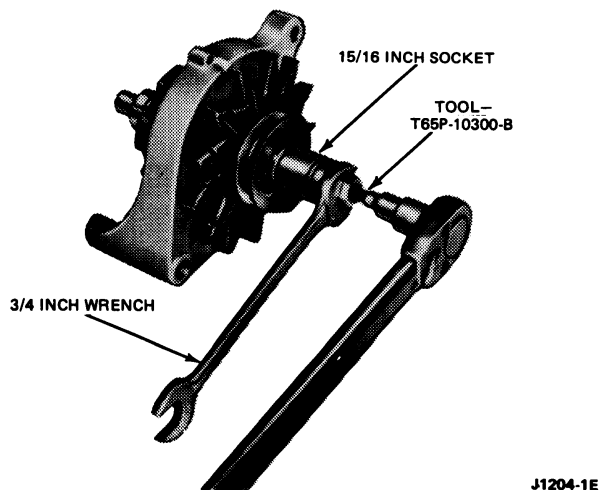

FIG. 5 Pulley Removal—Typical
3. Remove the drive pulley nut with the tool shown in Fig. 5. Then, remove the lockwasher, pulley, fan and fan spacer from the rotor shaft.
3. **Install the fan spacer, fan, pulley, lockwasher and nut on the rotor shaft. Use the tool shown in Fig. 5 to tighten the pulley nut.**